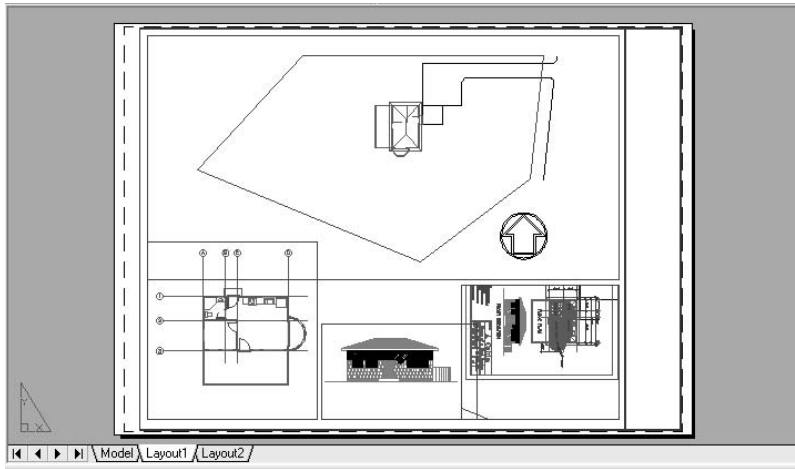

FIGURE 13.25: The front elevation in the middle small viewport
4. Switch back to Paper Space and use grips to resize the viewport so that it includes the entire front elevation and nothing more (see Figure 13.25).